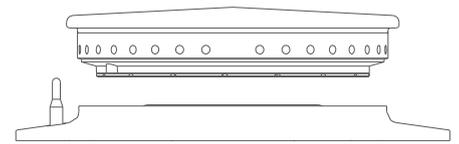

Figure 8 – Brass burner head and Bezel
- Remove brass burner head and aluminium bezel by lifting upward. (Figs 8,12).
Stubborn debris lodged in ports (See Figure 8) can be removed using a non-metallic implement (*ie. cocktail stick*). The slots in base should be freed of debris using a soft brush. Dry burner with a lint-free cloth and blow through ports to ensure there is no blockage